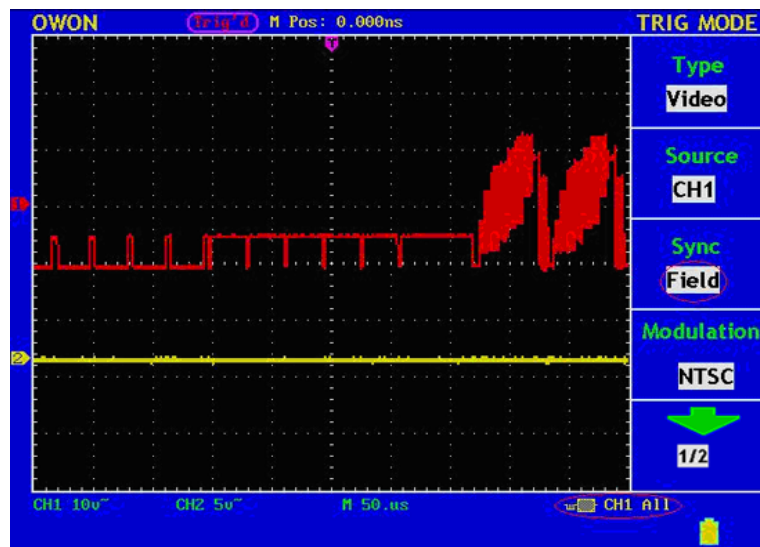

Fig. 70 Wave Form Obtained from Video Field Trigger
5. Adjust the **VOLTS/DIV**, **VERTICAL POSITION** and **SEC/DIV** knobs to obtain a proper wave form display (see Fig.70).